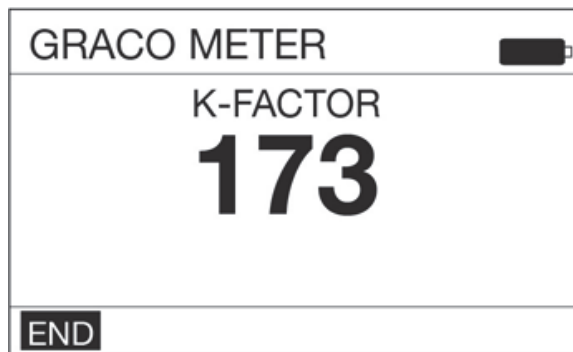

FIG. 17
7. When **exactly** one quart or one liter of fluid is dispensed into the flask use the center ENTER button on the keypad to select END. A screen displaying the quantity of fluid dispensed displays (FIG. 17 shows an example of the dispensed volume screen).